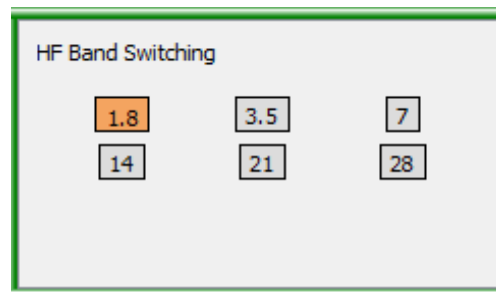

Figure 45 – HF Band Switching
3.4.1.1 Multi-band (HF) Contests
For multi-band (HF) contests the screen layout will have to be modified (see Section 3.5) to display the '**HF Band Switching**' panel (Figure 45). The orange button shows the currently active band.